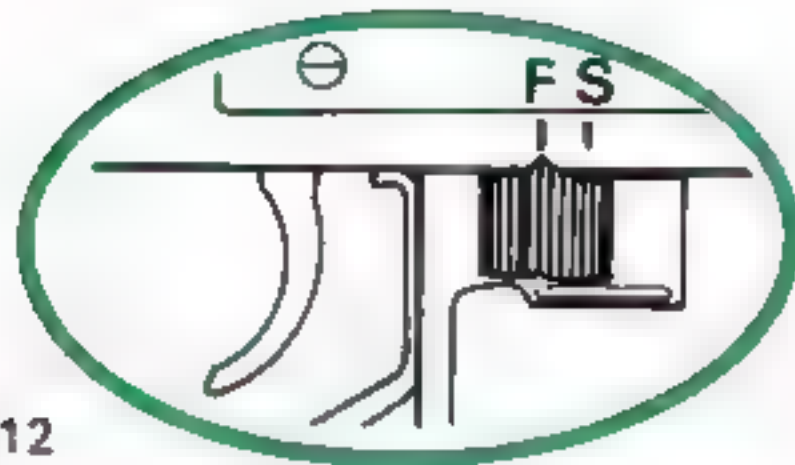

fig 12
- 2 Set fire selector to "F" (Fire) (fig 12)